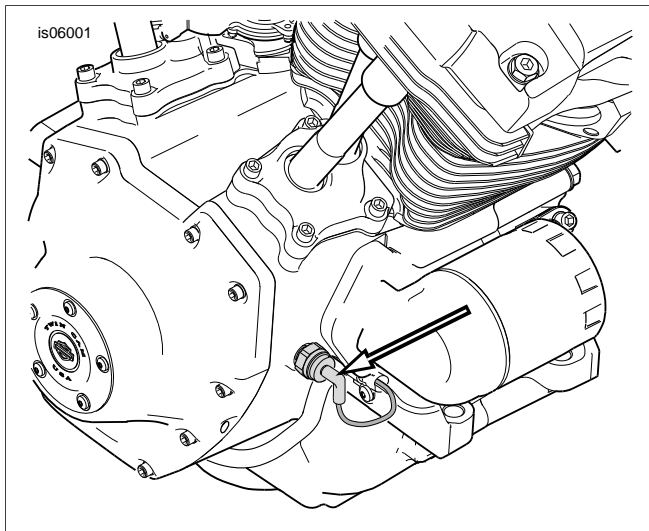

Figure 1. Oil Pressure Switch Location (Typical)
1. Remove the connector from the oil pressure switch (see Figure 1). Remove and discard the switch. Clean old threadlocking agent from the threaded opening.